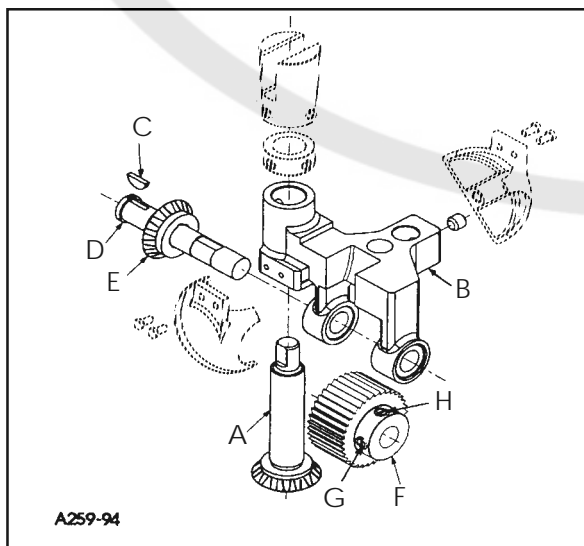

FIG. 16
Assemble driven gear (A, Fig. 16) through feed roller frame (B). Place woodruff key (C) into slot of feed roller shaft (D). Slide driven gear (E) on to shaft (D), make sure key (C) goes into slot in gear (E). While holding feed roller frame (B) with steel roller (F) between the two frame lobes, slide feed roller shaft (D) and assembled components through frame. Make sure that shoulder of roller (F) is to the right. Align screw (G) (first in operating direction on roller) on the flat of shaft (E). At the same time thrust shoulder of shaft (D) against face of gear (E), make sure left edge of roller is against right (inside) face of left lobe. Secure screw (G) on flat of shaft (D) and tighten screw (H).